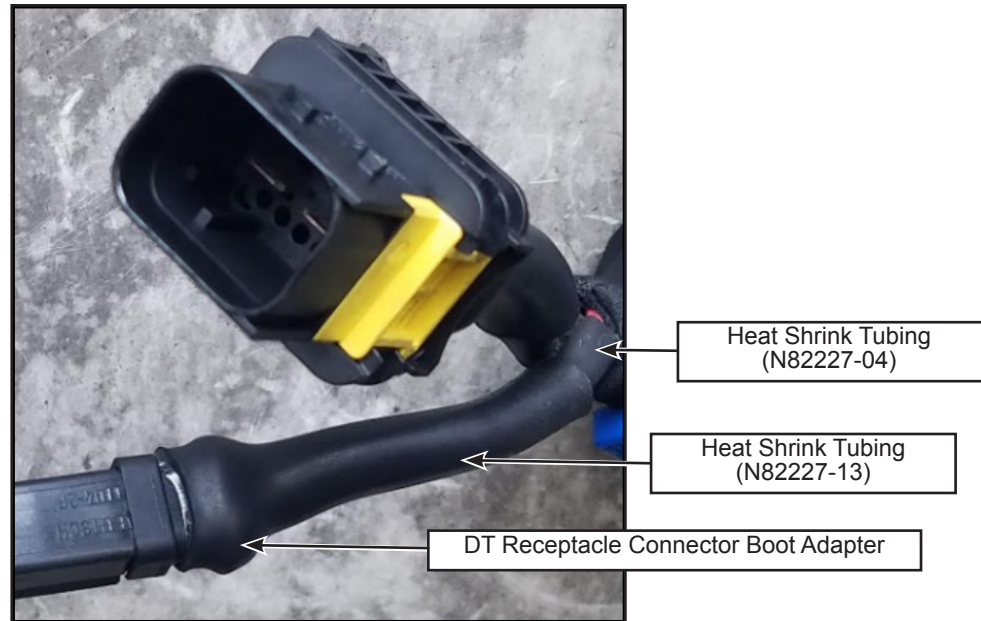

Figure 18 - Heat Shrink Tubing Installation on DT Receptacle Connector Wiring at Harness Side
- 1.34. Using a heat gun, apply the large heat shrink tubing PN N82227-13 starting from the boot adapter of DT receptacle connector finishing directly over the smaller heat shrink tube previously installed on the paired control wires (see figure 18). Make sure to fill any gap with the inner adhesive liner glue (do not apply heat shrink tubing over tape or loom).